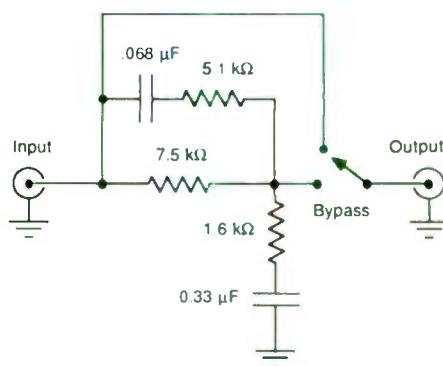

FIGURE 3: Equalizer diagram (one channel).
**BASS EQUALIZER PLANS.** Figure 3 is the bass equalizer circuit diagram. Its effect is a 6dB boost at frequencies below 100Hz, relative to higher frequencies.